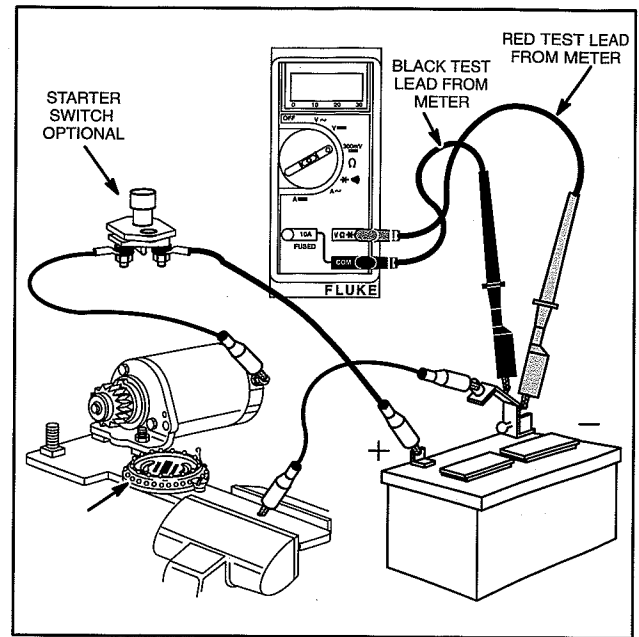

Fig. 7 – Testing 12 Volt Starter Motor Digital Multimeter & DC Shunt
It is recommended that the starter motor be removed from the engine when testing starter motor performance. Remove starter shield. Remove two starter motor mounting screws using universal socket, Tool #19353. Assemble starter to test bracket and clamp test bracket in vise, Fig. 7.
1. The DC Shunt **MUST** be installed on the **negative** (-) battery terminal as shown in Fig. 7.